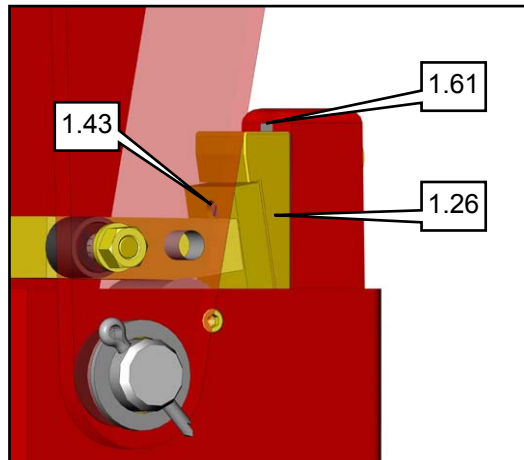

Fig. 12
- Swivel both levers (1.4 / 1.5) complete with AWC unit (2) upwards (Fig. 12 left).
- Remove levers (1.4 / 1.5) from AWC unit (3)